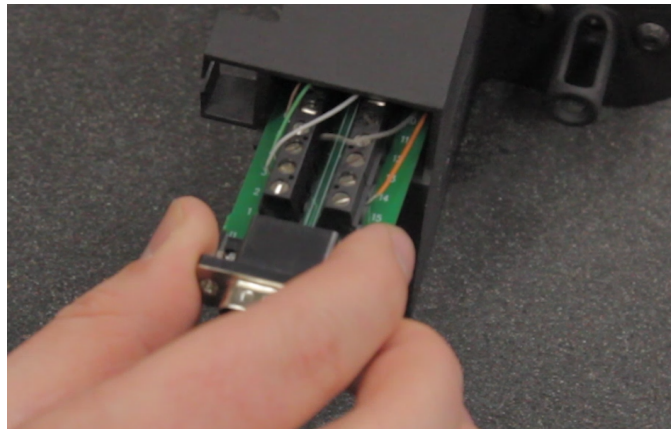

Figure 14. Inserting the 15-Pin Adapter into the corresponding slot on the Collar
2. Slide the 15-Pin Adapter into the corresponding slot on the Collar (Figure 14).